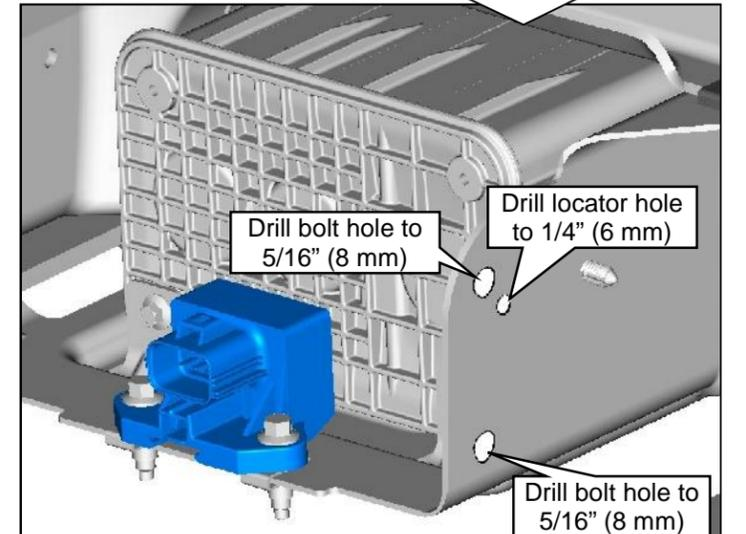

Figure 17.3 — OEM Aft-axle Tank Version
9. Drill the two marked bolt holes to 5/16" (8mm) and the EFPR locator marked hole to 1/4" (6 mm). **Figure 17.3.**